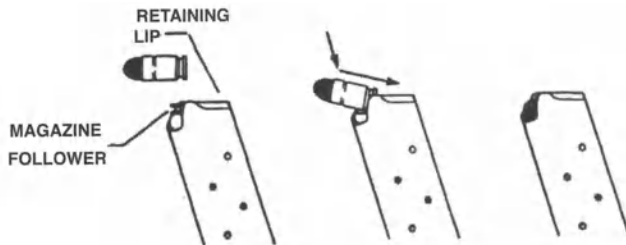

FIGURE 3 ' LOADING MAGAZINE
3. With open end uppermost, grasp the magazine in one hand. Place a round on the magazine follower with the base of the round just forward of the retaining lips (see Figure 3). Press the round down and back until the base of the round